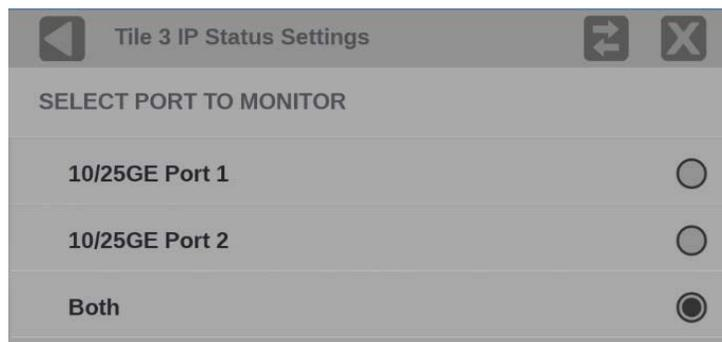

Figure 132: IP Status port settings
2. Open the IP Status settings menu; select and hold in the tile and select the  icon. (See Figure 132.)